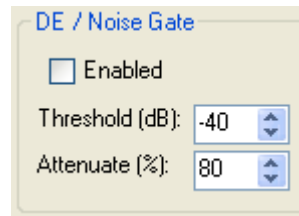

Figure 117: Noise Gate
4. Decrease the **Attenuate(%)** (see Figure 117 above) slowly until you can just start to hear your background noise. Then lower it a little more (about 5%-10% is a good starting point) to provide more of a soft knee between your voice level transitions.